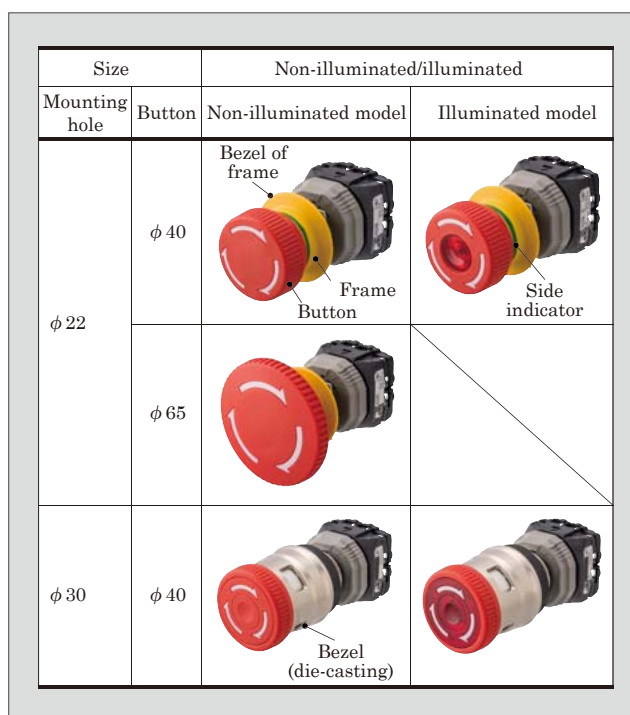

Fig.2 Types of operating element in emergency stop switch
Figure 2 shows the types of operating element. The emergency stop switch must be highly visible because it is operated in an emergency by the worker. Accordingly, as buttons for  $\phi 22$  mounting holes, we have lined up non-illuminated and illuminated models for the standard  $\phi 40$  size and non-illuminated models for the large  $\phi 65$  size. As buttons for  $\phi 30$  mounting holes, we have lined up non-illuminated and illuminated models available for the standard  $\phi 40$  size.
- Button size: two models,  $\phi 40$  mm and  $\phi 65$  mm, have been lined up for  $\phi 22$  mounting holes (see Fig. 2).
- Accommodation of lockout: the operating element of models for  $\phi 30$  mounting holes has been equipped with a die-cast bezel that allows attachment of a padlock or hasp when the button is in the activated (NC contact open) state (see Fig. 2).
- (2) The frame is colored in yellow. A frame structure is provided in which the bezel with the diameter larger than the  $\phi 40$  red button is integrated, which forms part of the background color (see Fig. 2).